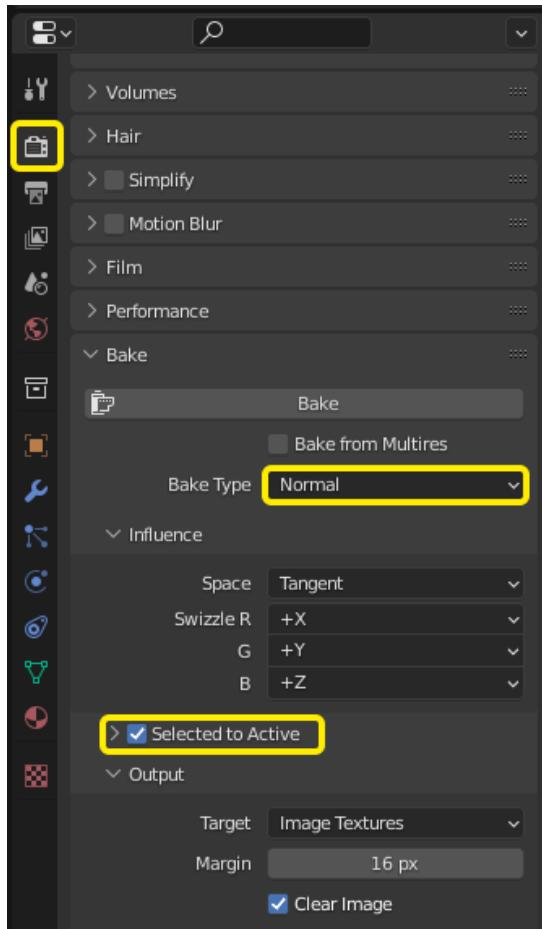

Figure 6.9 – Bake settings
9. Open the **Bake** menu in the **Render Properties** tab. The menu will only appear in **Cycles** render mode. Set **Bake Type** to **Normal** and check the **Selected to Active** checkbox, as shown in *Figure 6.9*: